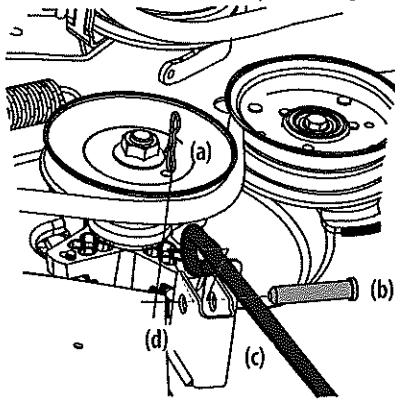

Figure 44
- b. Remove the third bow-tie pin (a) from the clevis pin (b) that secures the front deck control rod (c) to the front deck lift bracket (d). Remove the clevis pin (b). See Figure 44.